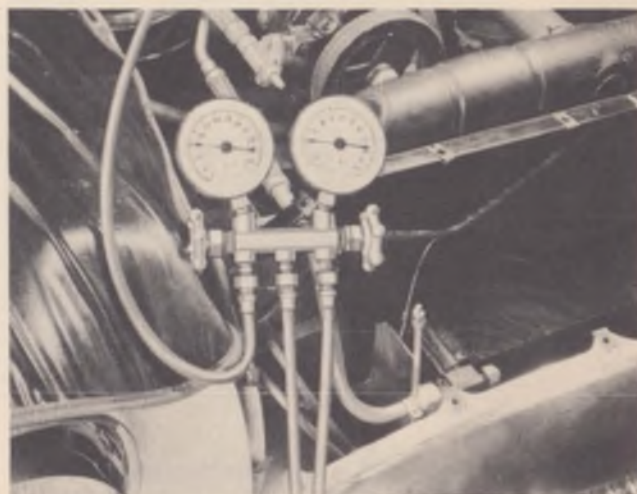

Fig. 11
4. Clip the $\frac{3}{8}$ " thermo-well, J-5422, on the inlet tube of the condenser. Fill the well cavity with water and insert the thermometer, J-5421, in it. See Figure 11.